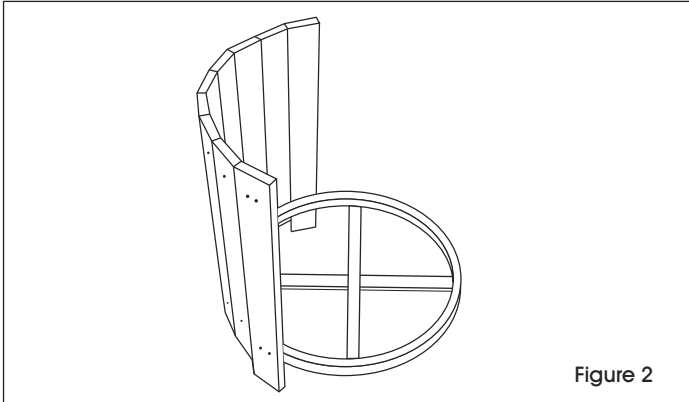

Figure 2
5. Fasten 5 of the 32" resinwood slats then fasten another 33" resinwood slat. (See Figure 2)